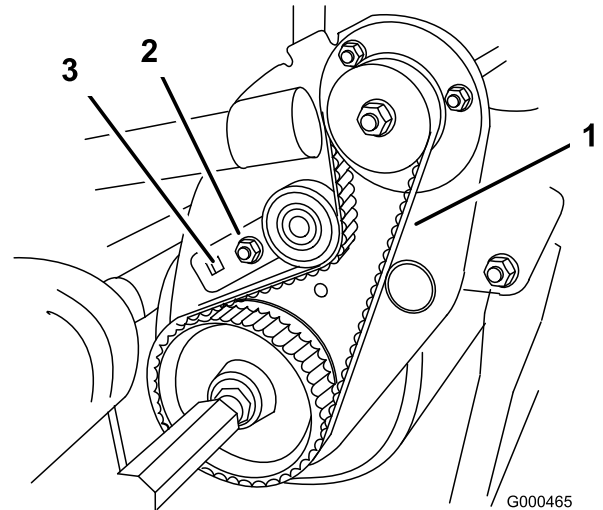

Figure 43
- B. Using a $3/8$ inch drive torque wrench, rotate the idler bracket with 35-40 in.-lb. of torque to set the belt tension (Figure 43). While holding the torque wrench setting, tighten the idler bracket mounting bolt (The tang washer is installed to prevent the belt from slipping). Do not over-tension the belt.